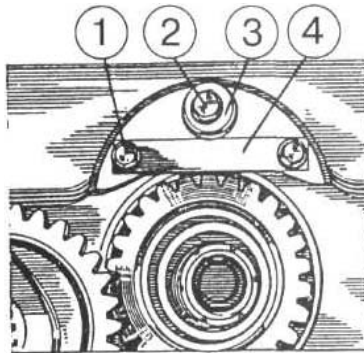

Figure 4.40
a) unscrew bolt 2 (Figure 4.40) and remove thrust washer 3;